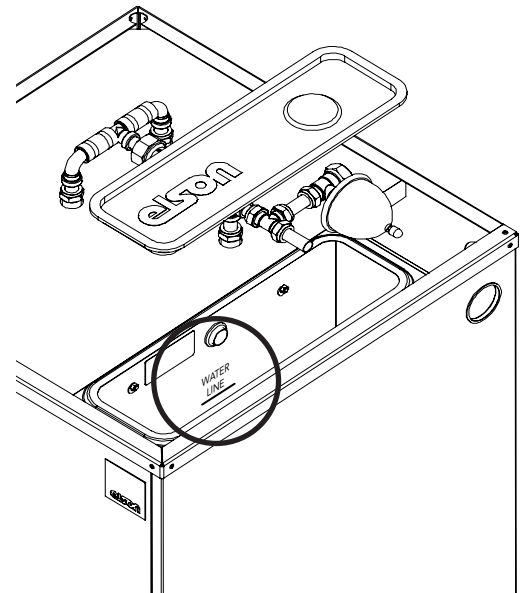

Fig 3
4. Check the water level in the feed and expansion tank is to the marked water line detailed in Fig 3. Fit the plastic lid on the tank.